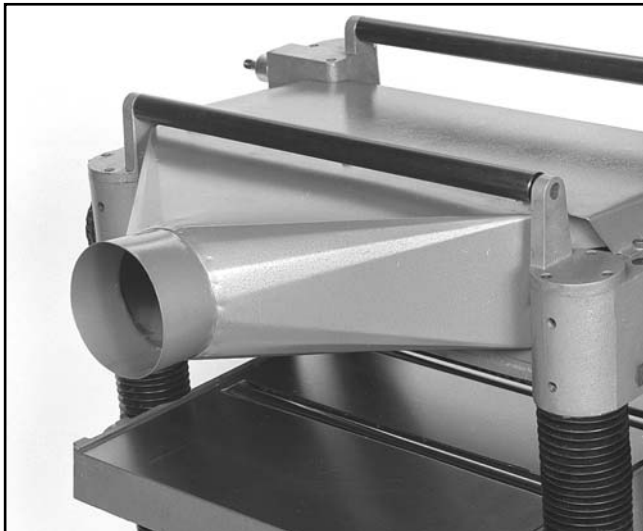

Figure 4. Dust hood in place.
2. Using the six M6-1.0 Hex bolts provided, secure the dust hood to the cutterhead casting. **See Figure 4.**